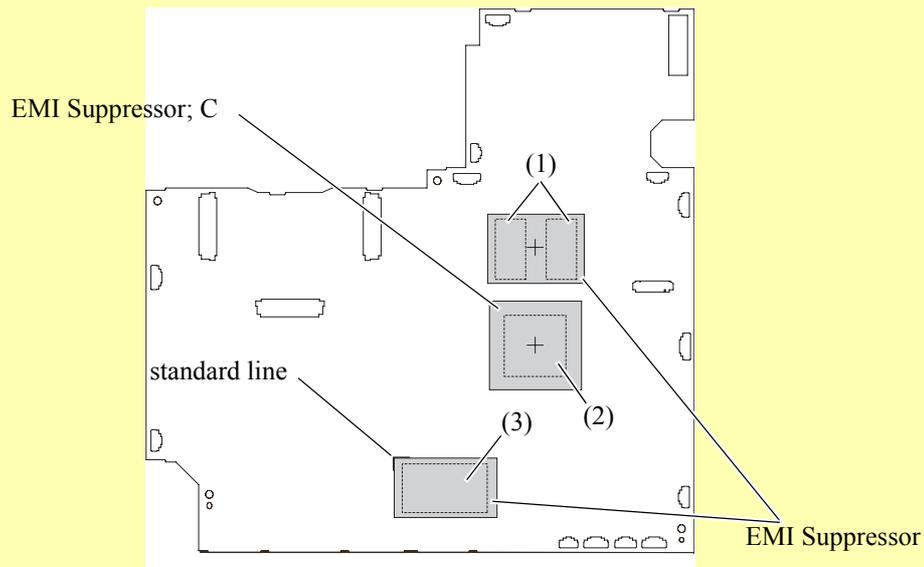

Figure 4-24.
- 1). Attach the EMI Suppressor on the ICs (1) while matching the centers as shown in Figure 4-24.
- 2). Attach two EMI Suppressor; C on top of each other on the IC (2) while matching the centers as shown in Figure 4-24.
- 3). Attach two EMI Suppressor on top of each other while aligning them along the standard line as shown in Figure 4-24.